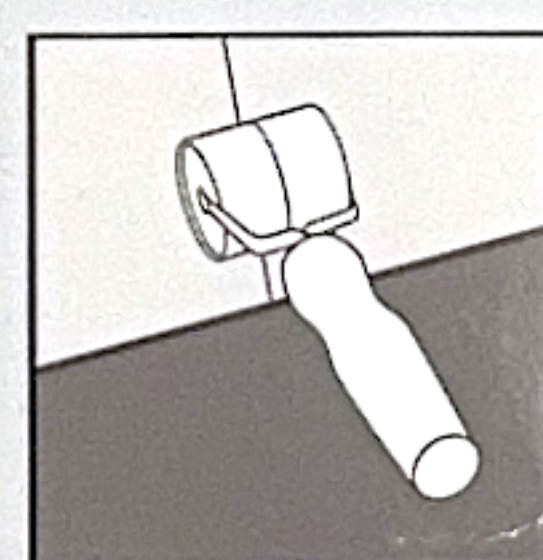

Fig. 4
5. Continue to install planks/tiles across the room until the row is complete using a hand roller to assist (Fig 4). Only if necessary, use a rubber mallet and an offset of the product to gently tap the product together. A pull bar can be used to pull the product together around the edges of the room (Fig. 5).